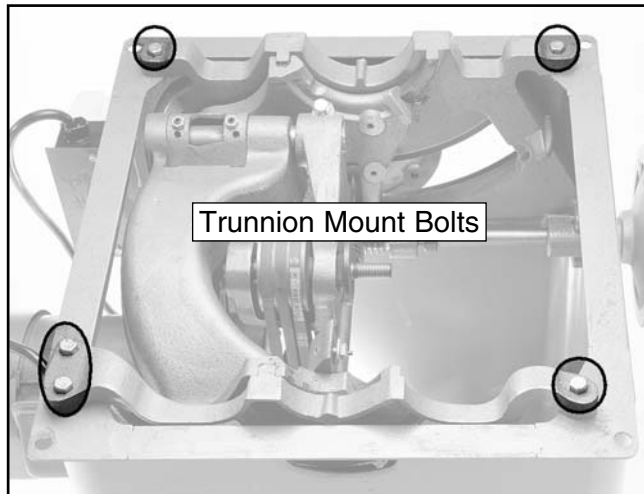

Figure 45. Trunnion mounting bolts.
3. Loosen the four trunnion mounting bolts as shown in **Figure 45**, and nudge to either the left or right depending on where the blade is hitting the saw.